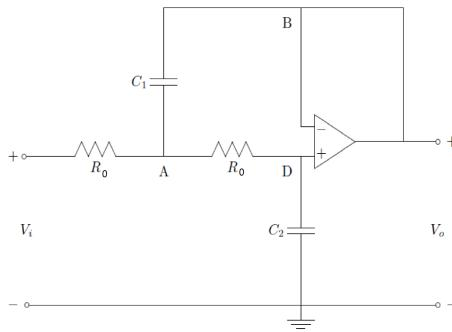

Figure 1: Plant Circuit
1. Construct the plant circuit according to Figure 1. Where $R_0 = 10k\Omega$, $C_1 = 100\mu F$, $C_2 = 0.22\mu F$.